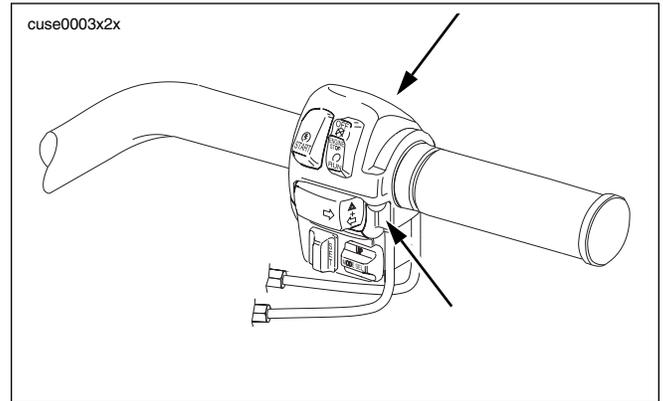

Figure 2-11. Right Handlebar Switch Housing Screws
- See Figure 2-11. Remove upper and lower fasteners securing right switch control housing halves to handlebar.